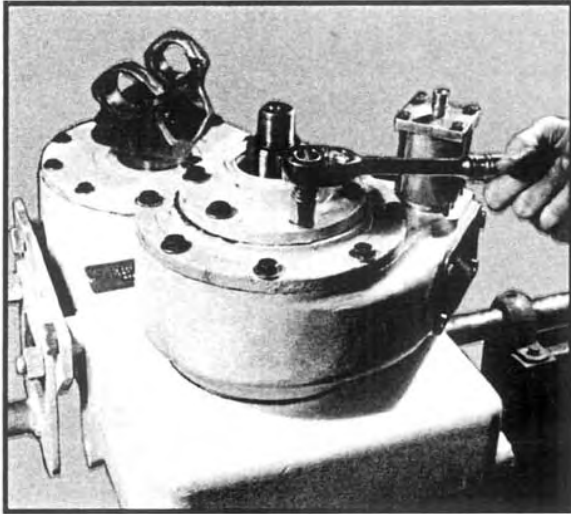

Fig 9
- Remove the (6) cap screws and washers that secure the oil seal carrier to the front bearing carrier. See Figure 9. Lift off the seal carrier and discard the gasket.